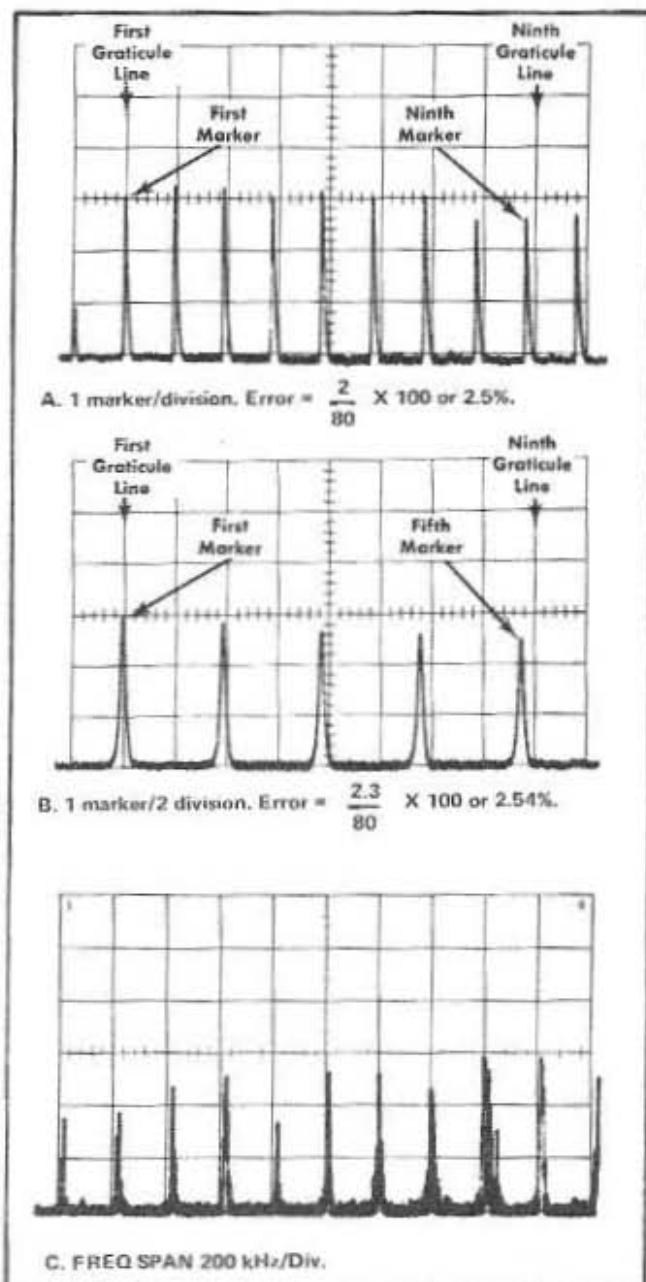
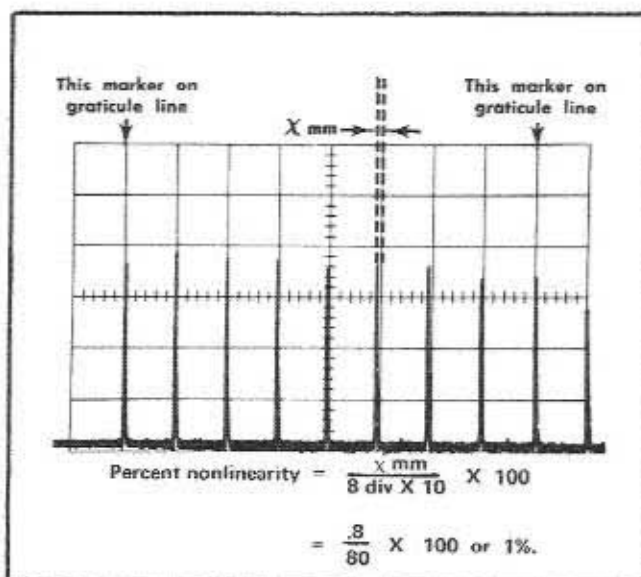

Fig. 5-2. Typical displays when checking frequency span and center frequency accuracies.
Fig. 5-3. Display illustrates frequency span linearity measurements.
b. Switch the VERTICAL DISPLAY to LOG and adjust the IF GAIN control for a display showing the 50 and 100 MHz signals and harmonics (Fig. 5-2).
c. CHECK—The display should contain 1 marker/division within 1.0 division over 10 division display. (Adjust the Horizontal Position control to align markers behind their respective graticule lines.) Check across the CENTER FREQ MHz tuning range. Fig. 5-2 and Fig. 5-3 illustrate how frequency span accuracies and linearity are measured.